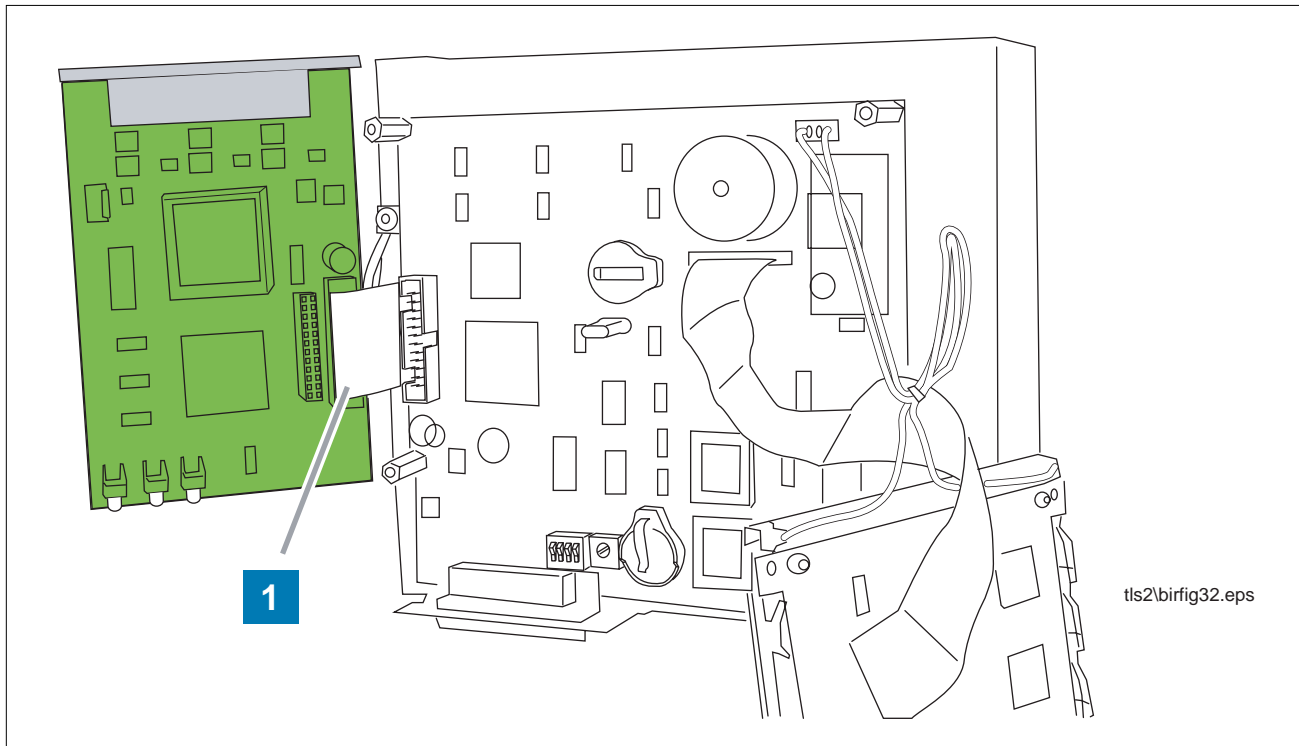

Figure 4. Attaching the CPU board power supply cable to the DIM module
- 8 Plug the ribbon connector, removed previously from the CPU board connector, into the connector (J3 on EDIM or J6 on CDIM) on the edge of the DIM module board (item 1 in Figure 4). Note that the end plate of the DIM module is up.